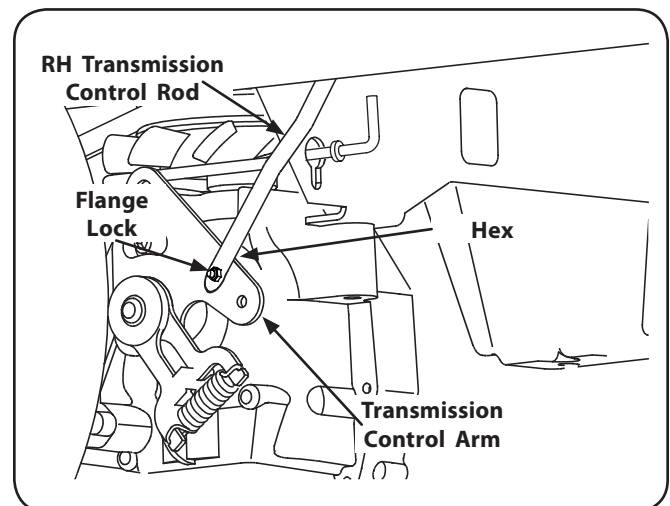

Figure 7-8
4. If only one wheel is rotating, locate the transmission control rod beneath the frame at the front of the rear tire. If both wheels rotate, locate both control rods. See Figure 7-8.